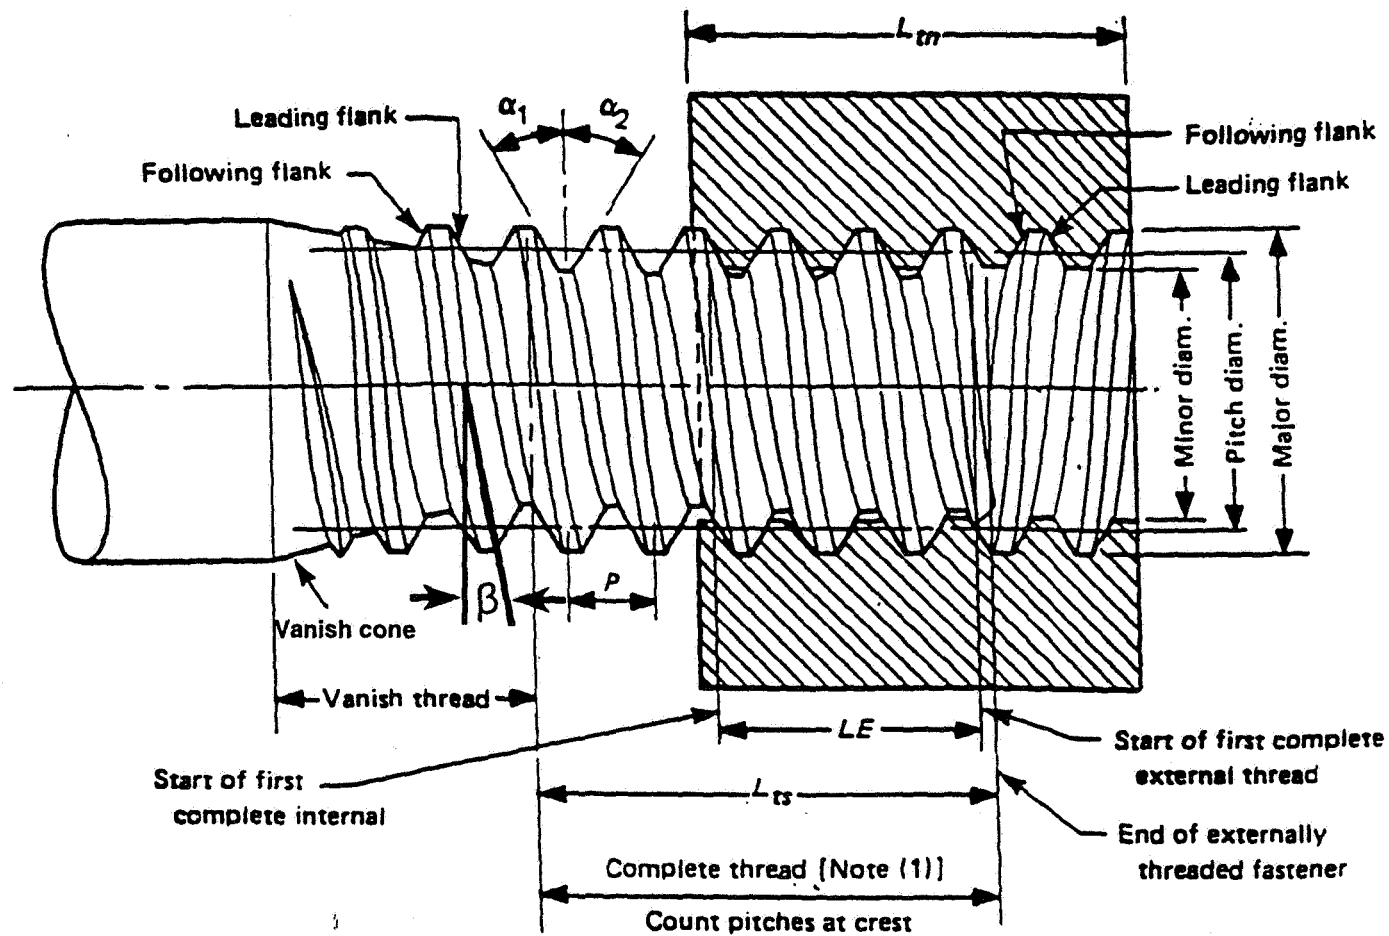

Figure 5(a) - Thread Terminology
- **Definitions (see Figure 5(a) for illustrations of definitions)**